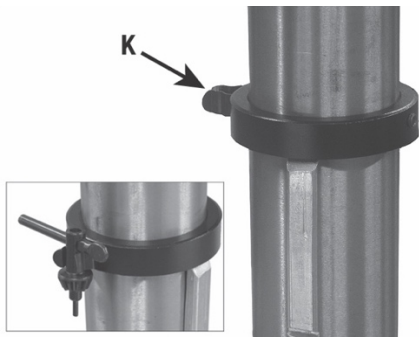

Figure 6-12
2. Attach the chuck key seat (K) to the rack ring as shown in Figure 6-12.
The chuck key can be stored in the chuck key seat on the rack ring (see Figure 6-12).